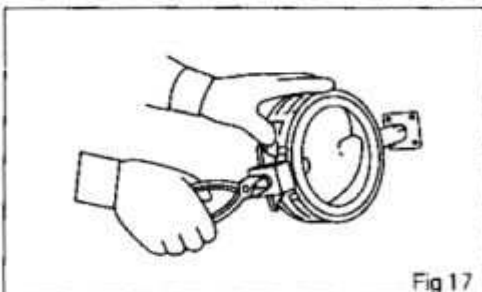
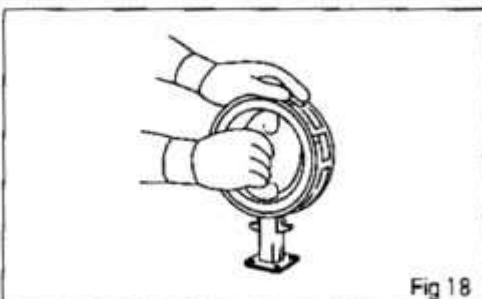

Fig 17
Fig 18
- 4. Remove the lower shaft :** Use the hexagonal bolt⑬ which fixed the cover. Screw the hexagonal bolt into the thread of the lower shaft⑤, then pull the hexagonal bolt⑬, so the lower shaft⑤ comes out with the hexagonal bolt⑬. (Fig17)
- 5. Remove the upper shaft :** Fix the head of the upper shaft④ by a vise, then, draw the valve body, so the upper shaft comes out.
- 6. Remove the disc :** First, lay soft-cushion underneath to protect the valve. Set the disc in almost fully open position. Push out the disc with it twisting. (Fig18)